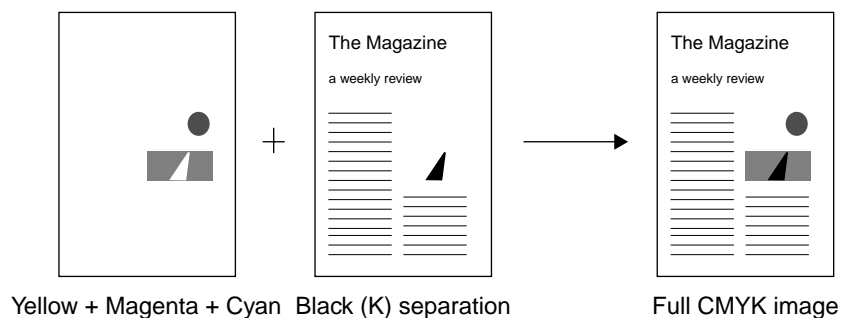

Figure 12.8 Yellow, Magenta, Cyan, and Black separations
Finally, the black ink for the black (K) separation is printed. All of the separations have been combined, producing a full-color image as simulated in Figure 12.8.